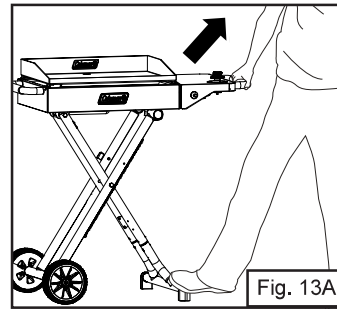
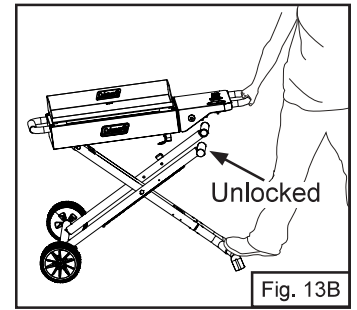
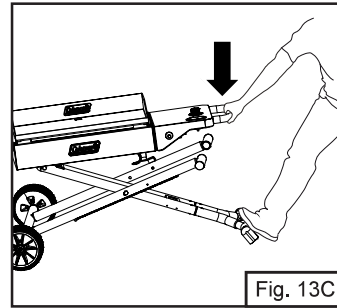

Fig. 13A
Fig. 13B
Fig. 13C
1. Place one foot on the towing handle, grasp the carry handle, and lift up and toward you (Fig. 13A). The Legs are now unlocked from the Red Hook-Shaped Brackets under the Appliance (Fig. 13B). Allow the appliance to lower (Fig. 13C). The wheels will roll away from you. It is now in the folded or collapsed position. Give the carry handle a gentle push so the legs stay secure. You will now be able to pick up on the tow handle and stand the appliance on its end.